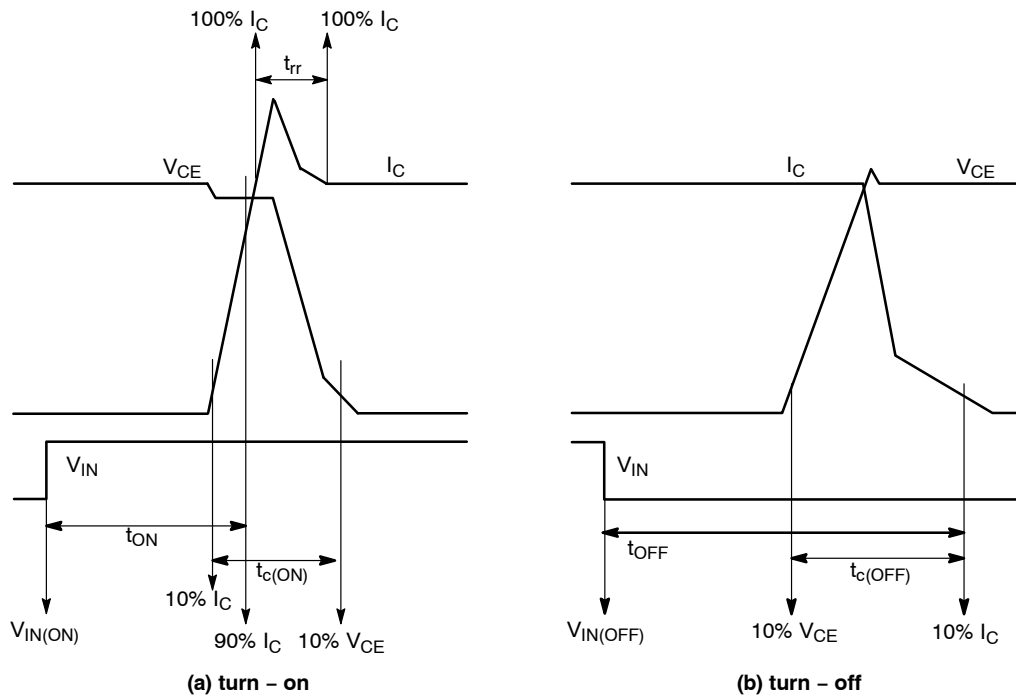

Figure 3. Switching Time Definition
6. tON and tOFF include the propagation delay time of the internal drive IC. tC(ON) and tC(OFF) are the switching time of IGBT itself under the given gate driving condition internally. For the detailed information see Figure 3.